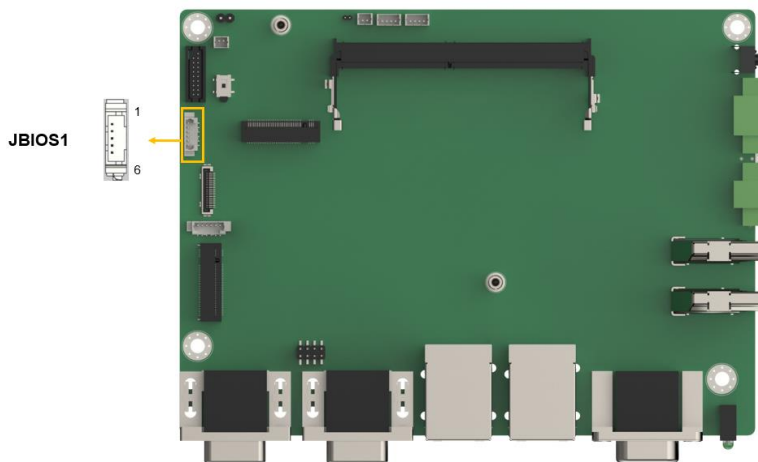

Figure 4-12: Flash SPI ROM Connector Location
- CN Location:** See **Figure 4-12**